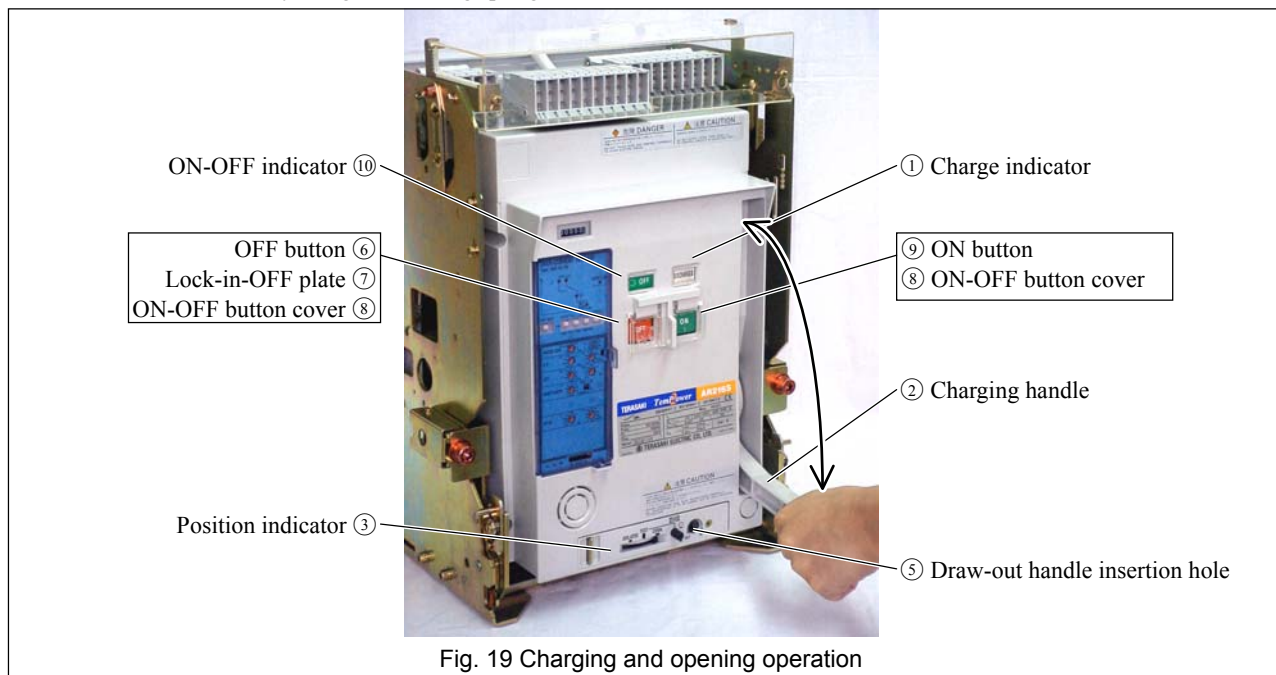

Fig. 19 Charging and opening operation
Pump the charging handle (Fig. 19 ②) until the charge indicator (Fig. 19 ①) shows “CHARGED” Pumping the handle with the full stroke 10 - 13 times will fully charge the closing springs.
When the charge indicator (Fig. 19 ①) changes to “DISCHARGED” while the specified operation voltage is applied to the control circuit terminals ⑫ and ⑰, the charging motor is activated to start charging the closing springs. Upon completion of the charging operation, the charge indicator shows “CHARGED” and the charging motor is automatically deactivated. The time required for the motor charging operation depends on the operation voltage or the ACB types, but does not exceed 10 seconds.
- 1) The charge indicator (Fig. 19 ①) shows "CHARGED".
- 2) The position indicator (Fig. 19 ③) shows "CONN.", "TEST" or "ISOLATED" (a halfway position not permitted).
- 3) The draw-out handle is not inserted in the draw-out handle insertion hole(Fig. 19 ⑤) .
- 4) The OFF button (Fig. 19 ⑥) is not locked with the lock-in-OFF plate (Fig. 19 ⑦).
Open the ON-OFF button cover (Fig. 19 ⑧) and press the ON button (Fig. 19 ⑨). The ACB will be closed with a sound. The ON-OFF indicator (Fig. 19 ⑩) shows "ON" and the charge indicator (Fig. 19 ①) shows "DISCHARGED".
Press the ON switch shown in Fig. 16. The latch release coil (LRC) (Fig. 16) will be excited and the ACB is closed with a sound. The ON-OFF indicator (Fig. 19 ⑩) shows "ON", the charge indicator (Fig. 19 ①) shows "DISCHARGED", and the charging motor starts charging the closing springs.
Open the ON-OFF button cover (Fig. 19 ⑧) and press the OFF button (Fig. 19 ⑬). The ACB will trip open with a sound. The ON-OFF indicator (Fig. 19 ⑩) shows "OFF".
Press the OFF switch shown in Fig. 15. The shunt trip device (SHT) or the fixed type undervoltage trip device (Fig. 15) will be excited so that the ACB trips open with a sound. The ON-OFF indicator (Fig. 19 ⑩) shows "OFF".